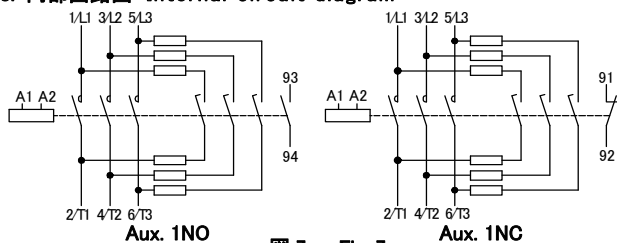

図7 Fig. 7
- For wiring, make sure that the phase sequence of the resistance wire is correct according to the internal circuit diagram. (Fig. 7)
【注8】配線後に抵抗線の相順が正しい位置に接続されていることを、図7の回路図よりご確認ください。
【Note 8】 After wiring, make sure that each resistance wire is connected to a correct phase according to Fig. 7